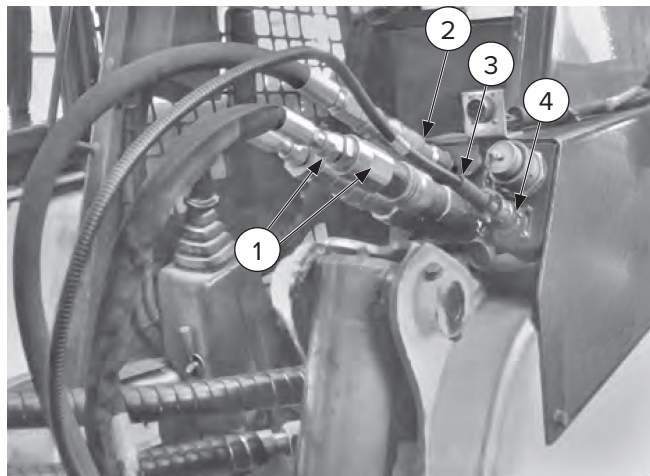

Figure 4
2. Connect the case drain [Figure 4, Item 2] first, and then connect the supply and return lines [Item 1]. (See "4.5 Connecting Quick Couplers" on page 16.)